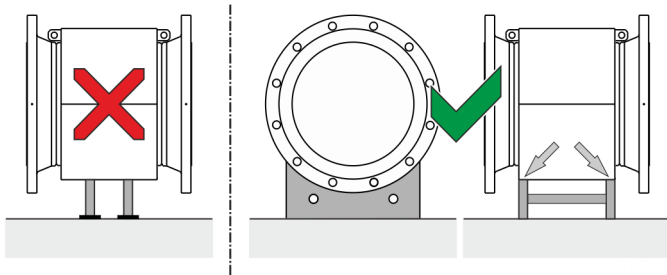

Figure 9: Support for nominal diameters larger than DN 400
- Place the supports at the edge of the sensor housing (see arrows in **Figure 9**).